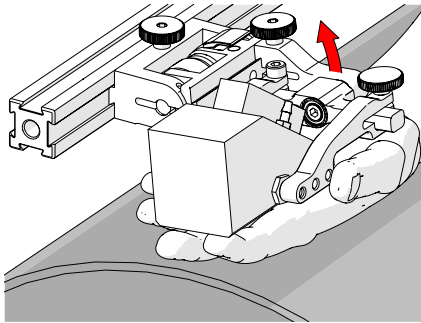

Fig. 42 - Lift to latched position
1. Ensure the probe holder is in latched, upper position (Fig. 42). If the probe holder is already latched, it will only move within the slip joint adjustment range and have no spring tension.
1. Ensure the probe holder is in the upright latched position (Fig. 42).